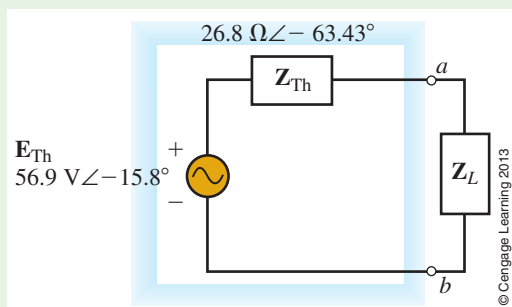

FIGURE 20-23
Step 5: The resulting Thévenin equivalent circuit is shown in Figure 20-23.